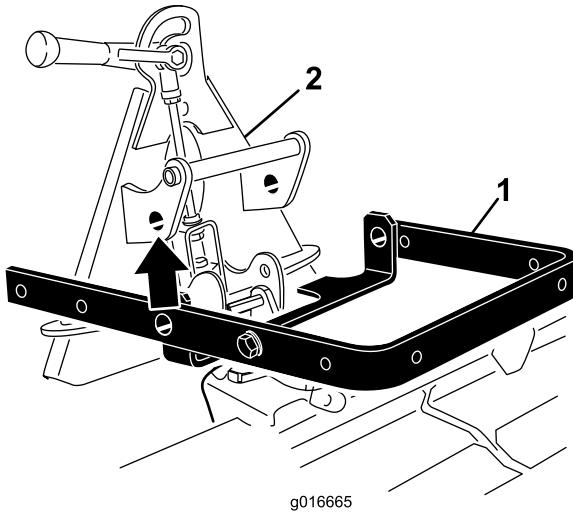
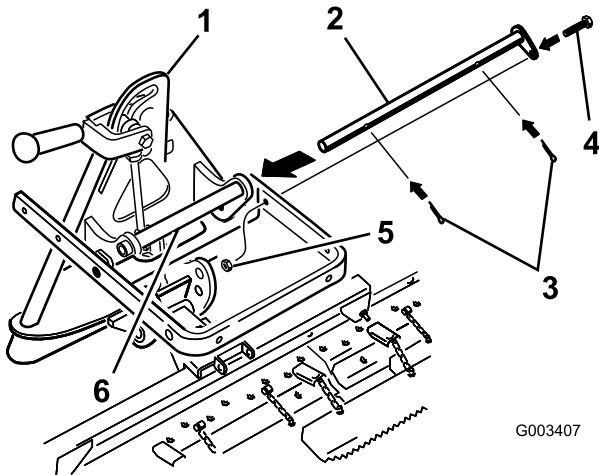

Figure 4
Figure 5
2. Align the lift arm with the bracket on the attachment adapter (Figure 4) and connect them using the pivot bar as illustrated in Figure 5.
Note: When moving the attachment adapter, use the handle provided on the back of the adapter (Figure 4).
3. Secure the pivot bar with 2 cotter pins and a bolt (3/8 x 1-1/4 inches) (Figure 5).